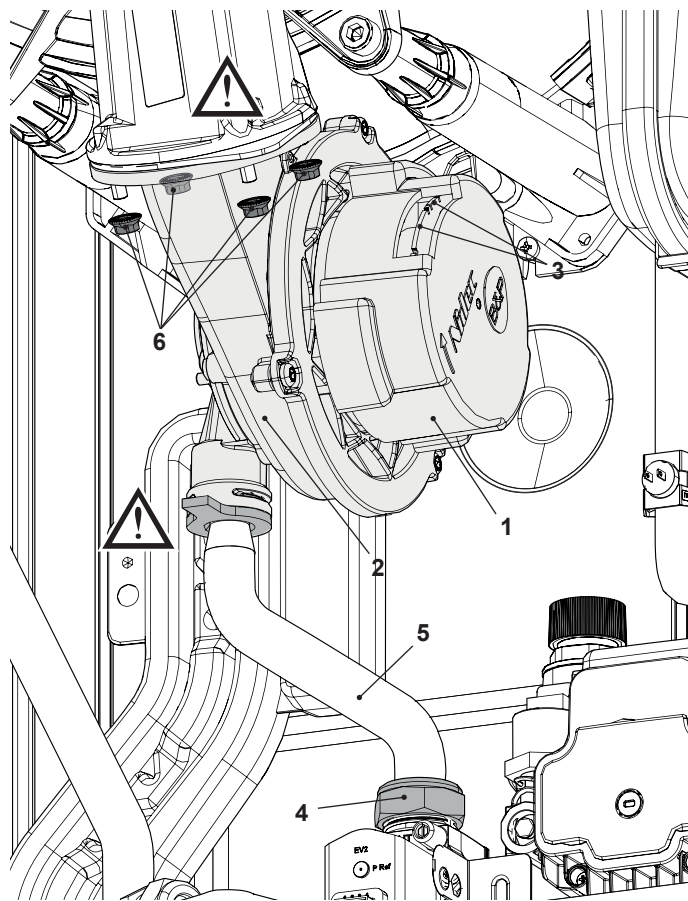

Figure 14.2
- 3 Unscrew the gas connector "4" and remove the gas pipe "5" (Figure 14.2).
Before reassembling ensure the fan gasket (Figure 14.2) is correctly mounted.